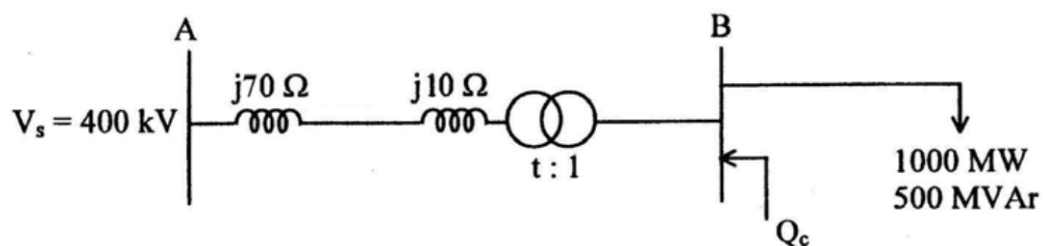

Figure 9.1
- 9.2 Figure 9.1 shows a transmission system which delivers 1000 MW, 500 MVar to a load busbar B. The equivalent source at busbar A has a constant voltage of 400 kV and the equivalent reactance between the source and load busbar is  $70 \Omega$ . A tap-changing transformer is used to regulate the voltage at busbar B. The transformer leakage reactance is  $10 \Omega$  referred to 400 kV side. A compensator is connected to the load busbar. In order to maintain the maximum overall voltage drop to 5% with the transformer taps fully utilized, the compensated reactive power  $Q_c$  of 252 MVar is required at busbar B. Calculate the minimum value of the transformer tap ratio "t". Use a base of 1000 MVA, 400 kV.